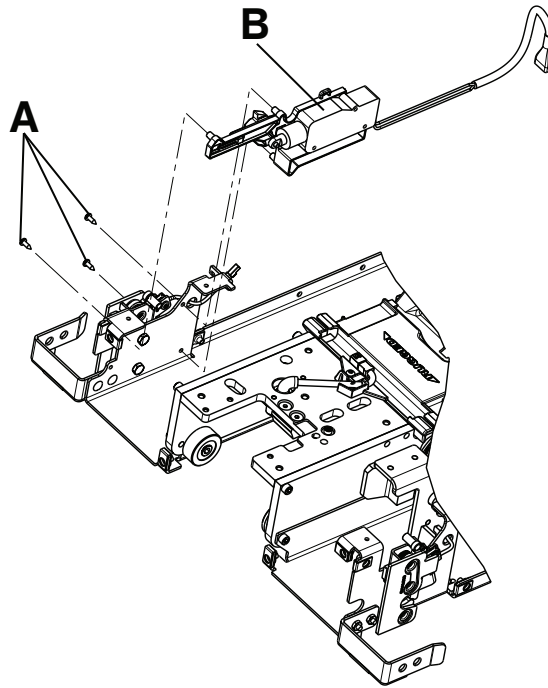

Figure 19 – Trolley actuator assembly
- Using a T20 Torx driver, remove the three delta screws (A) that secure the trolley actuator (B) to the trolley frame (Figure 19). Save the screws.